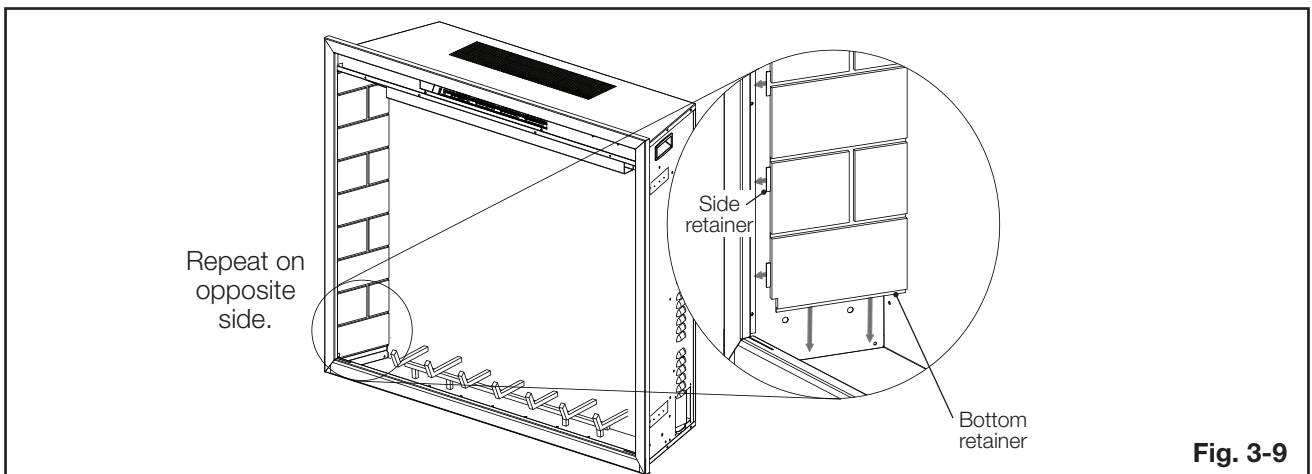

**Fig. 3-6**
6. Secure the appliance to the rough-in framing by installing 4 screws (supplied) through one of the three holes of the mounting tabs from the inside of the appliance (**Fig. 3-6**).